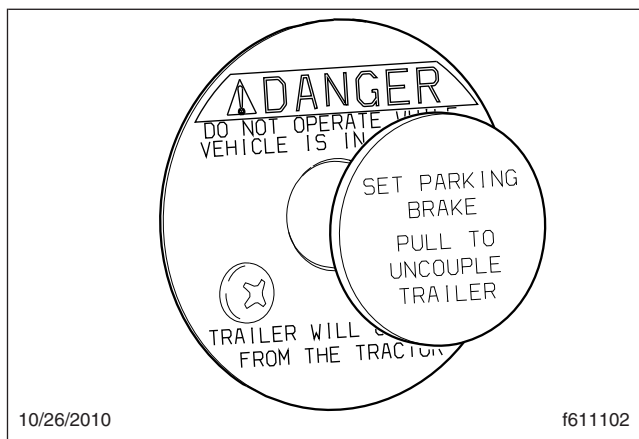

Fig. 18.11, Air-Actuated Kingpin Release Valve
An air-actuated kingpin release valve is optional with all fifth wheels. See Fig. 18.11.
2. Pull and hold the kingpin release valve (Fig. 18.11) until the kingpin lock mechanism opens and locks in place.